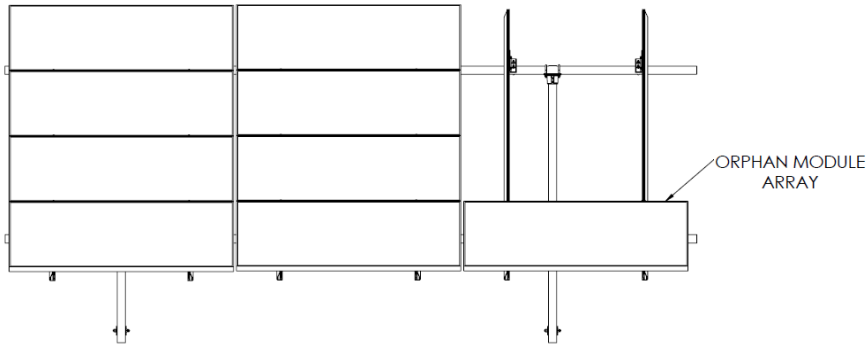

Figure 1: Orphan Module Installation
1. Single module installation (“orphan modules”) shall not be permitted with the ground mount system when CAMO clamp is used. Reference Figure 1 on following page for “Orphan Module” installation.